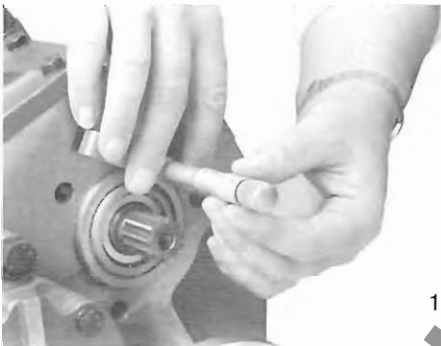

Fig. 14
1. Press the bearing outer cup firmly into position and measure between the face of the gearcase and the top of the bearing outer as shown in Fig. 14.